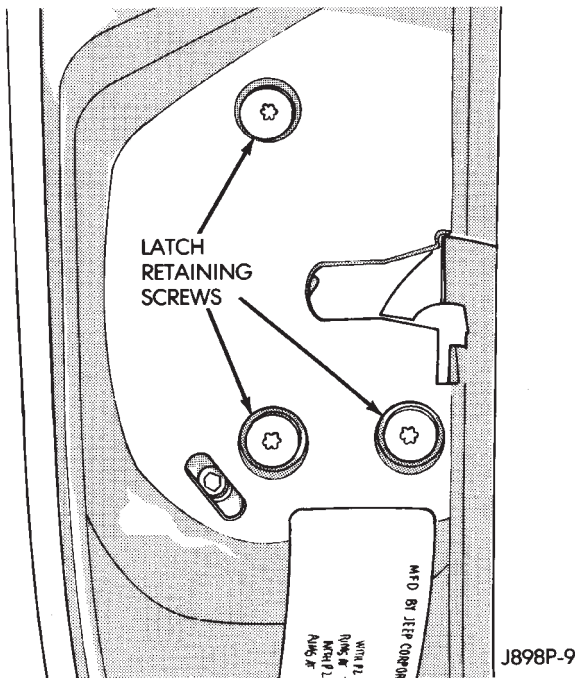

Fig. 6 Latch Removal/Installation
(8) Remove plastic water dam sheet.
(9) Remove latch retaining screws (Fig. 6).